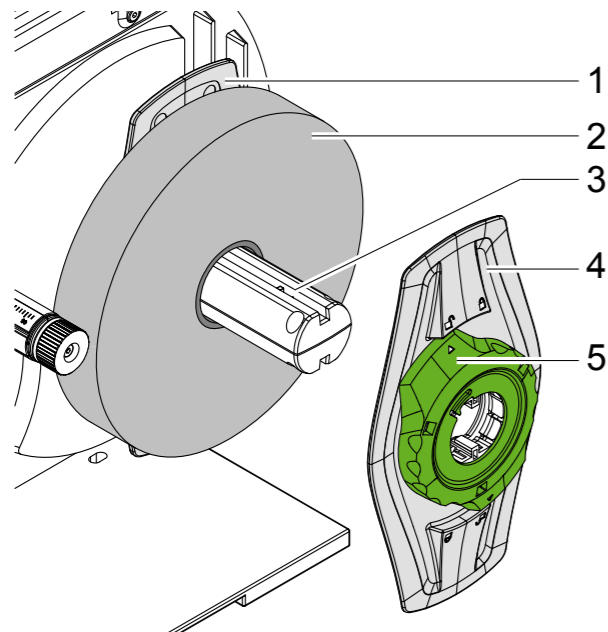

Fig. 7 Positioning media
- ▶ Loosen knurled knob (10, Fig. 7) and position the label sensor by moving the knob in such a way that the sensor can detect the material gap or a reflex or cut-out mark.